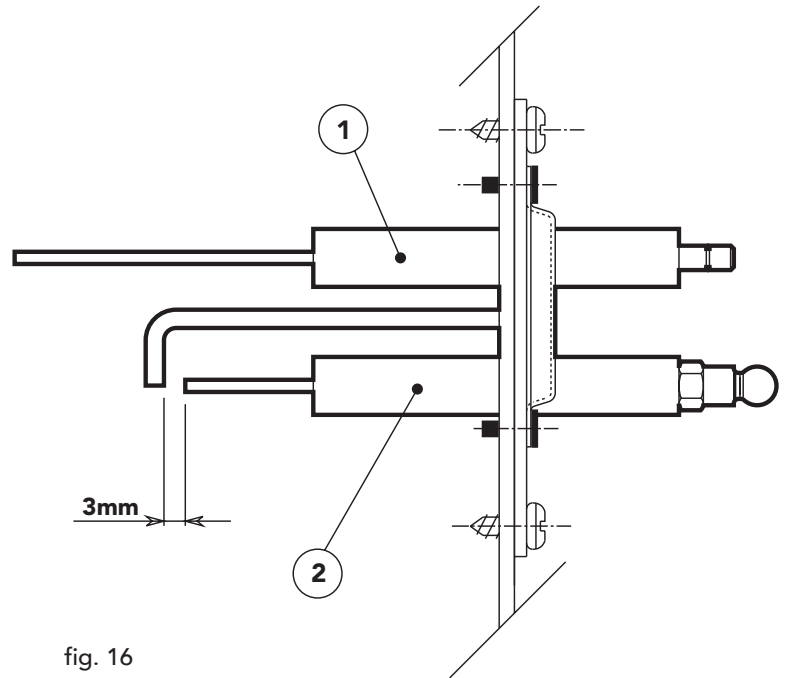

fig. 16
- Check that the electrodes have been positioned correctly and do not contain deposits (see fig. 16).